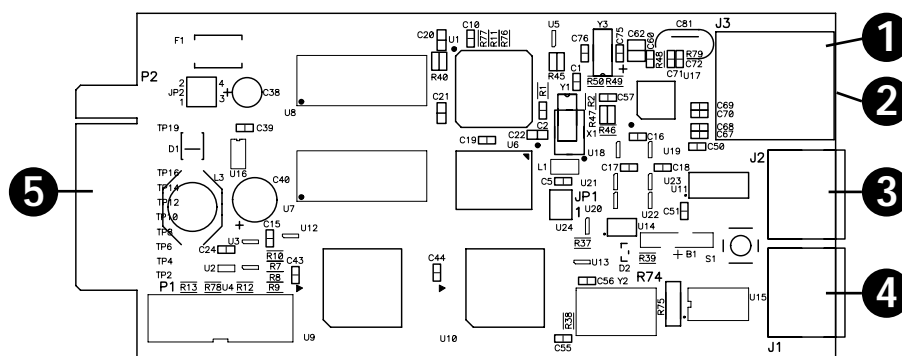

Figure 1-1: SNMPWEBCARD
1. Connect the “Configuration” port on the SNMPWEBCARD to the serial port on your PC or terminal (see Figure 1-1).